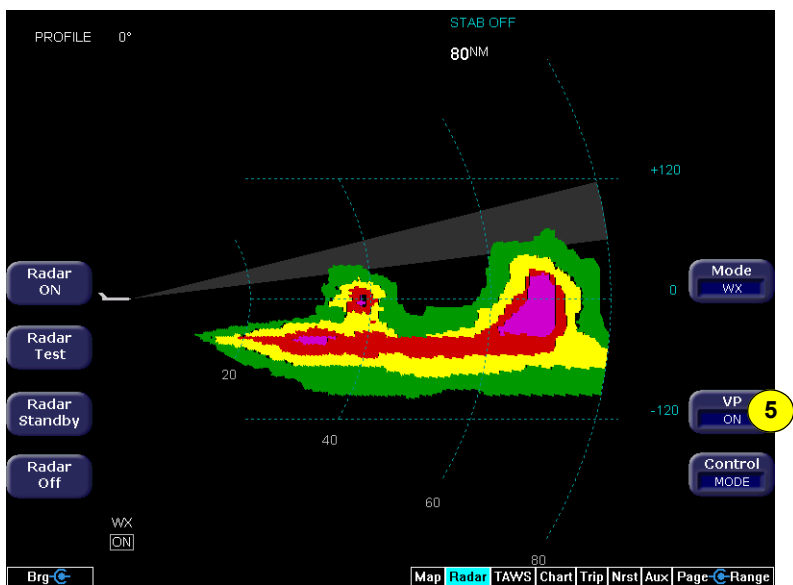

Figure 4.5 Vertical Profile View
- 5) **VP (Vertical Profile)**—Vertical profile mode (Figure 4.5, below) allows you to view approaching weather as a slice of the vertical plane instead of the conventional horizontal, forward view.